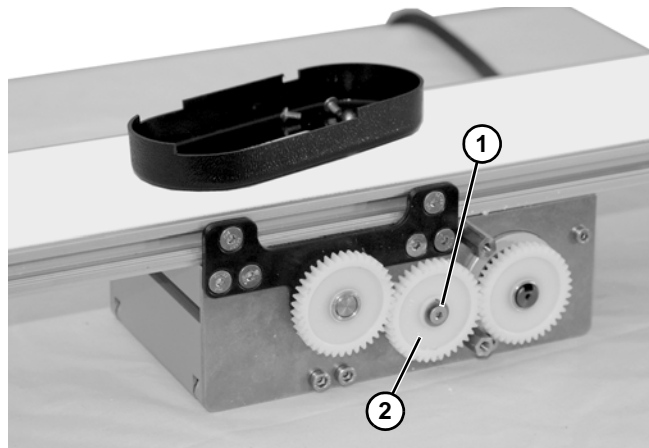

Figure 22
2. Remove screw (Figure 22, item 1) and washer from center gear (Figure 22, item 2).